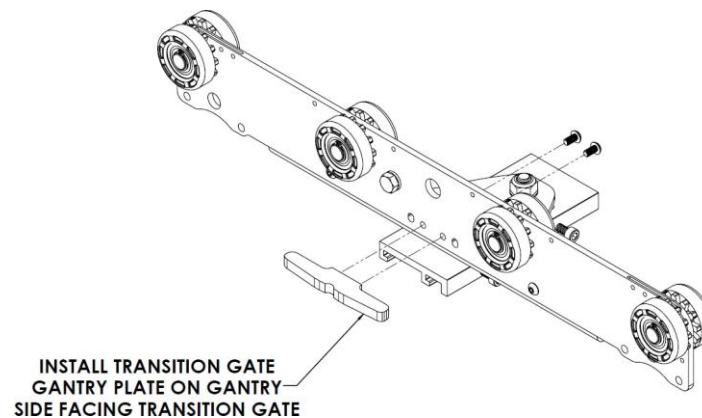

Figure 93: **Transition Gate Gantry Plate Installation**
a. Install the transition gate gantry plate on the X/Y gantry trolley closest to the transition gate as shown in Figure 93.